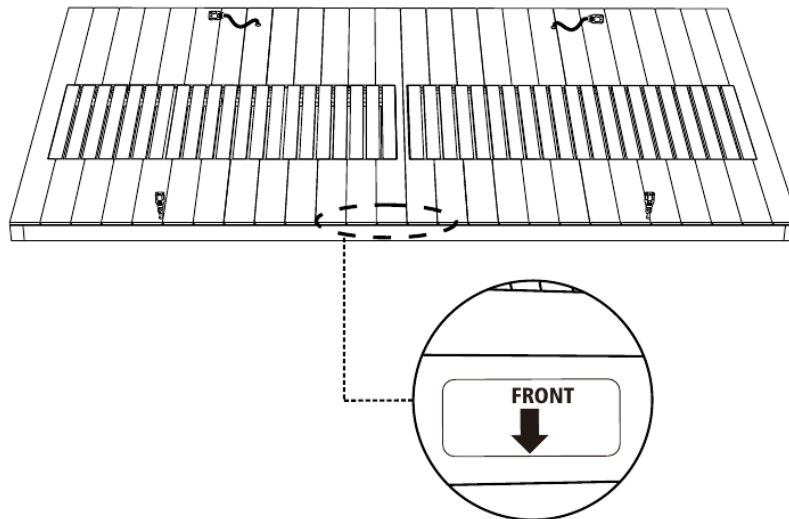

Figure 4. Floor Panel with the FRONT sticker (inset). The arrow on the sticker points toward the door side and your 24 in door clearance.
- Identify the front and rear of the Floor Panel using the stickers on it. The front faces your 24 in door clearance (**Figure 4**).